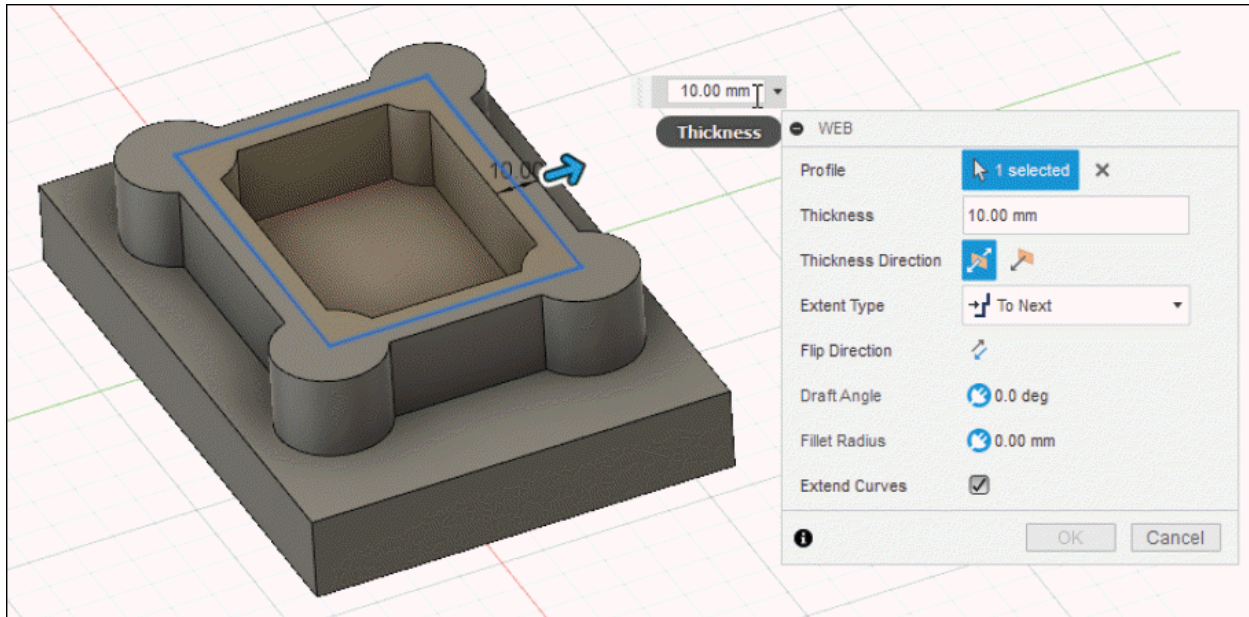

Figure-33. Preview of web
- The other options in the dialog box are same as discussed earlier. Preview of rib will be displayed according to parameters specified; refer to Figure-33.